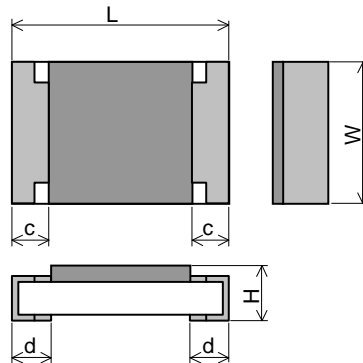

Figure-1
6.1 The resistor shall be of the design and physical dimensions in accordance with Figure-1 and Table-3.